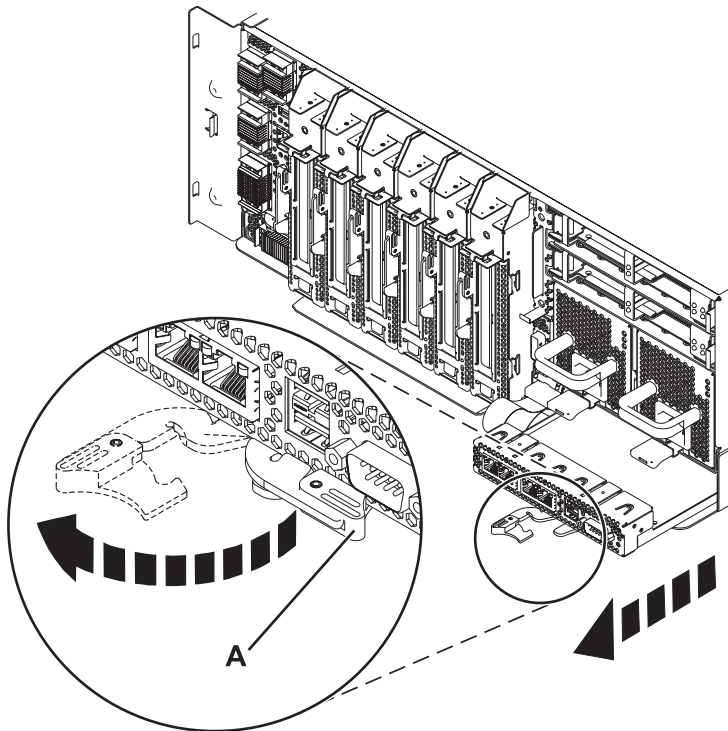

Figure 1. Removing a Host Ethernet Adapter from the 9117-MMB or 9179-MHB system
5. Locate the Ethernet adapter that you want to remove as shown Figure 1.